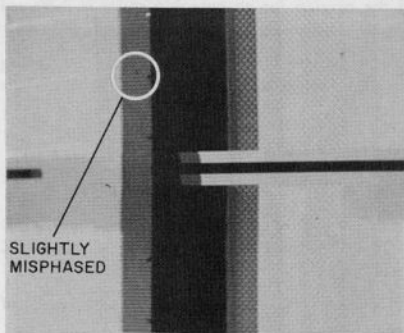

Figure 59—Splice Phasing (Add On) Switchlock (Play)
5. Adjust the ERASE DELAY control until the erase pulse occurs after the band containing the frame pulse, by an interval of approximately  $1\frac{1}{2}$  bands. See figures 59 and 60.
5. Play tape and adjust SPLICE RECORD HOR PHASE if original recording was made on a different machine. If recording was made on the same machine, place toggle switch on splice logic module on FIXED TW (See figures 59 and 60).